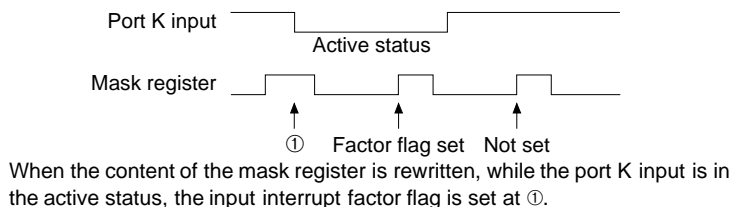

Fig. 11.2.1 Input interrupt timing
For example, a factor flag is set with the timing of ① shown in Figure 11.2.1. However, when clearing the content of the mask register with the input terminal kept in the low status and then setting it, the factor flag of the input interrupt is again set at the timing that has been set.